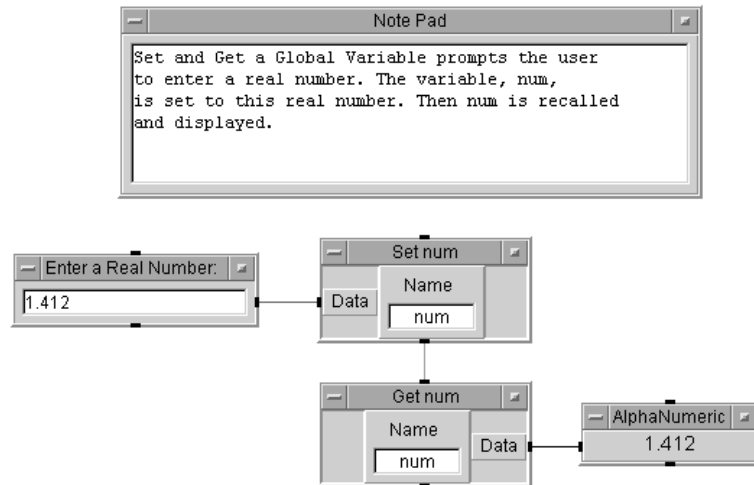

Figure 73 Set and Get a Global Variable
- 10 Enter a real number and click the run button on the tool bar. The program should look similar to Figure 73.